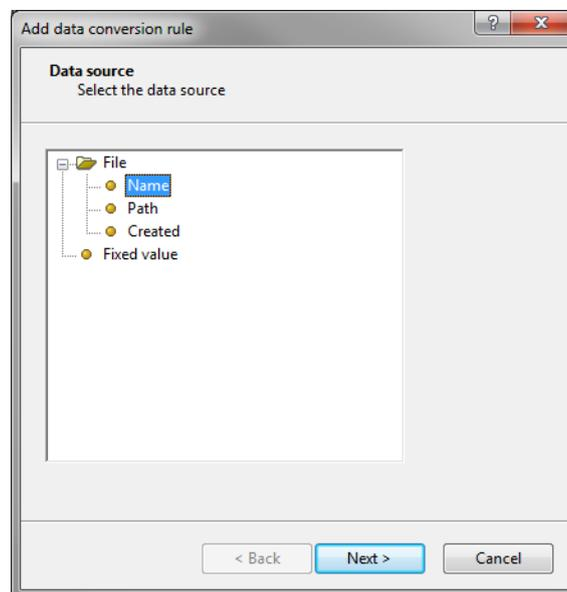

Figure 4: Add a new import rule.
10. Select **<Add rule>**, select **Name** under **File** (see Figure 4) and press **<Next>**.